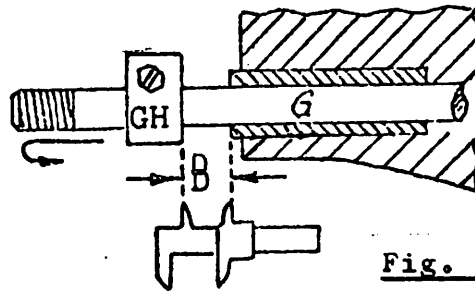

Fig. 24b
- b) Continue to turn the balance wheel in the feed direction until the hook shaft "G" has reached its front reversing point (d.c.). Now measure the distance "D", which must be 0.15mm more than the distance "d" (fig. 24b).